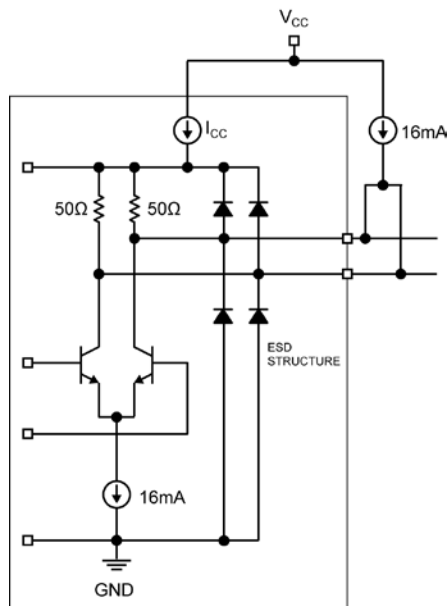

Figure 4. Power Supply Current Measurement
The SY88315BL generates a chatter-free SD open-collector TTL output with an internal  $4.75\text{k}\Omega$  pull-up resistor as shown in Figure 4. SD is used to determine that the input amplitude is large enough to be considered a valid input. SD asserts high if the input amplitude rises above the threshold set by  $\text{SD}_{\text{LVL}}$  and de-asserts low otherwise. SD can be fed back to the enable (EN) input to maintain output stability under a loss of signal condition. EN de-asserts the true output signal without removing the input signals. Typical 3.4dB SD hysteresis is provided to prevent chattering.